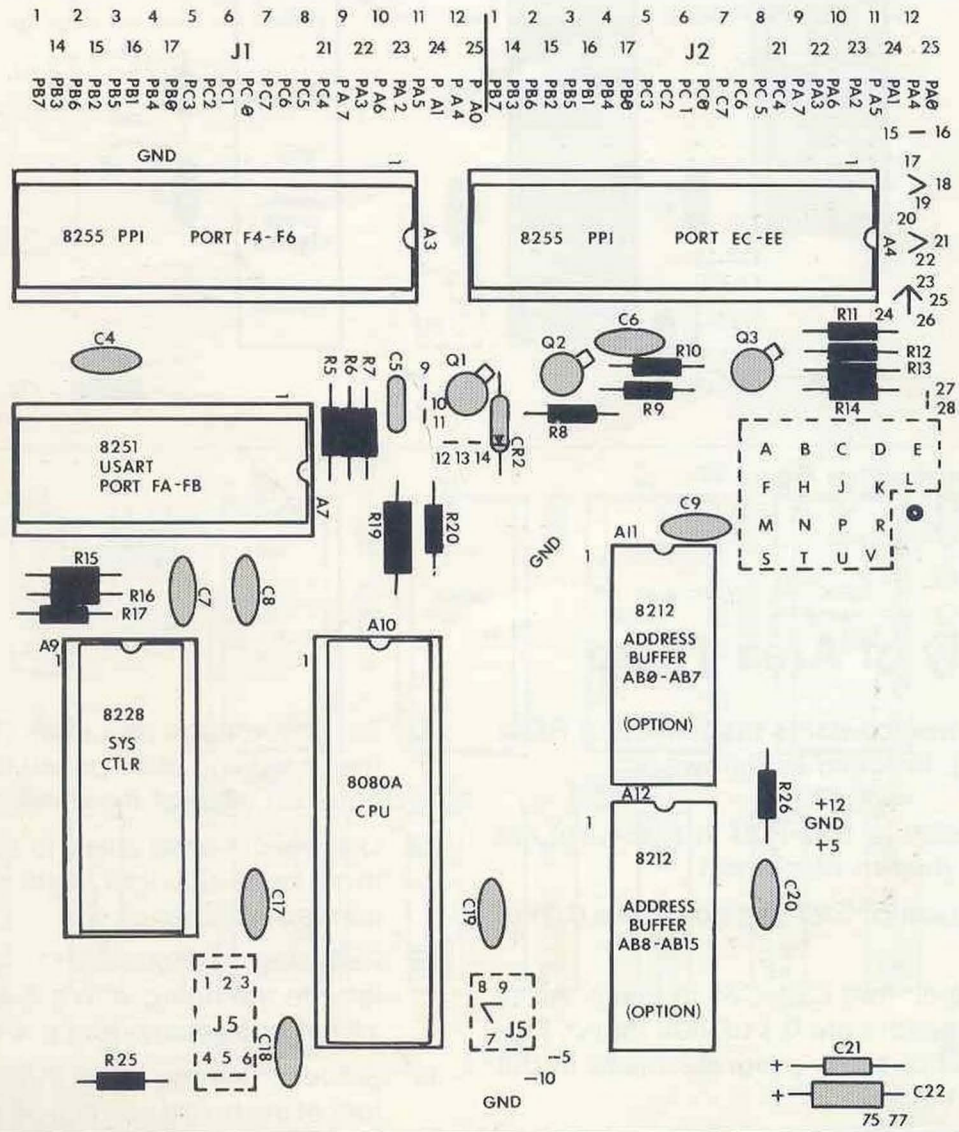

Figure 2-8. Construction Figure #6.
- Solder diode CR2 into place. Make sure the arrow is as shown on the board. Figure 2-8 shows the progress made in the last three steps.